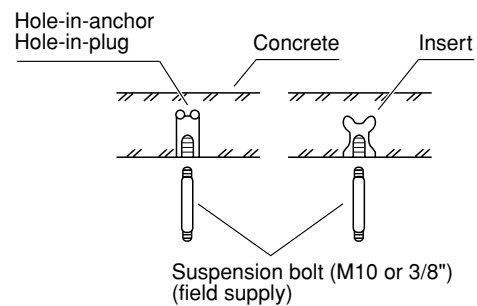

Fig. 3-48
- (1) Fix the suspension bolts securely in the ceiling using the method shown in the diagrams (Figs. 3-48 and 3-49), by attaching them to the ceiling support structure, or by any other method that ensures that the unit will be securely and safely suspended.